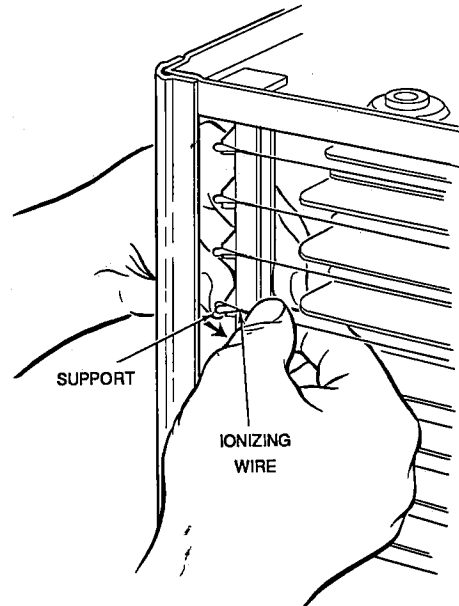

Figure 21
3. Hold your finger against the support at the other end (Figure 21) and hold the ionizing wire between thumb and forefinger as shown or use needle nose pliers. Press on spring and on wire loop until it slips over the end of the support. Make sure wire is securely anchored at each end.